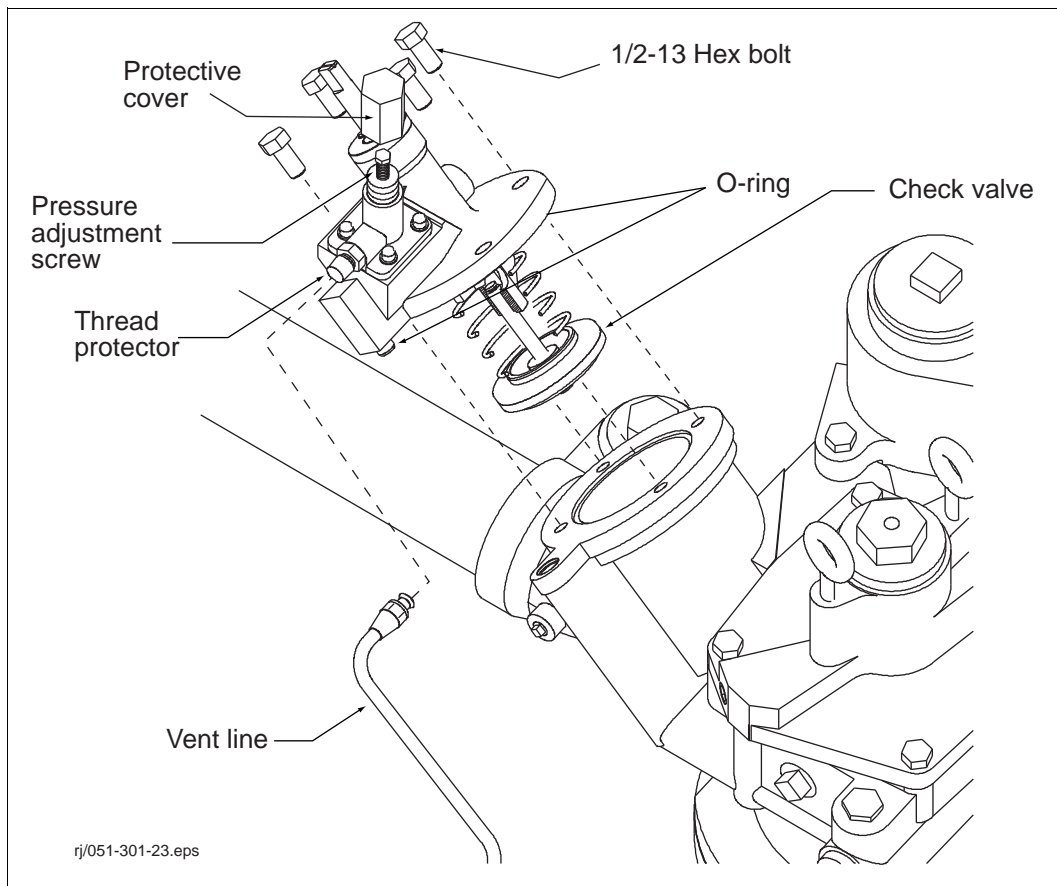

Figure 21. Maxxum Check Valve Assembly
1. Relieve system pressure by removing the protective cover and then backing out the pressure adjustment screw (see Figure 21).